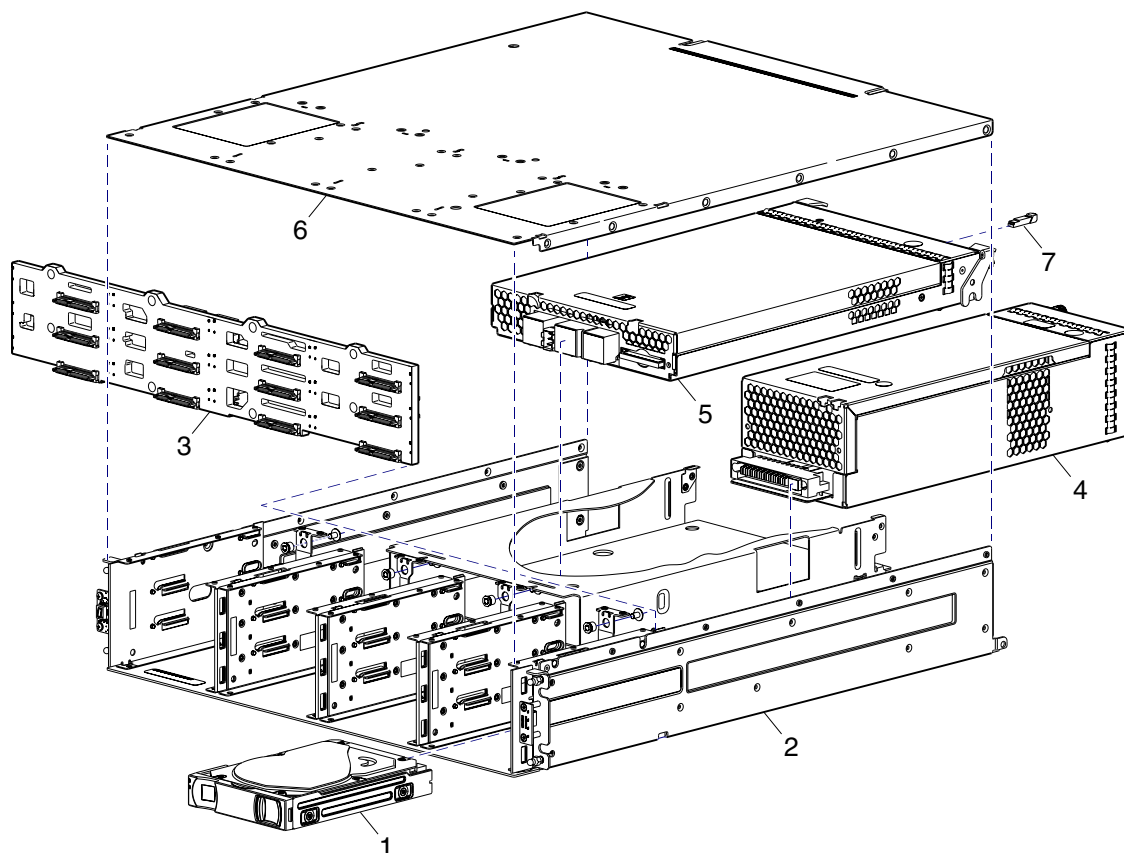
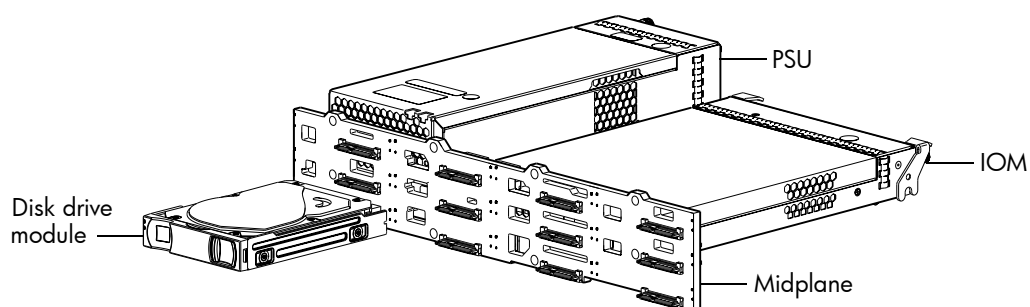
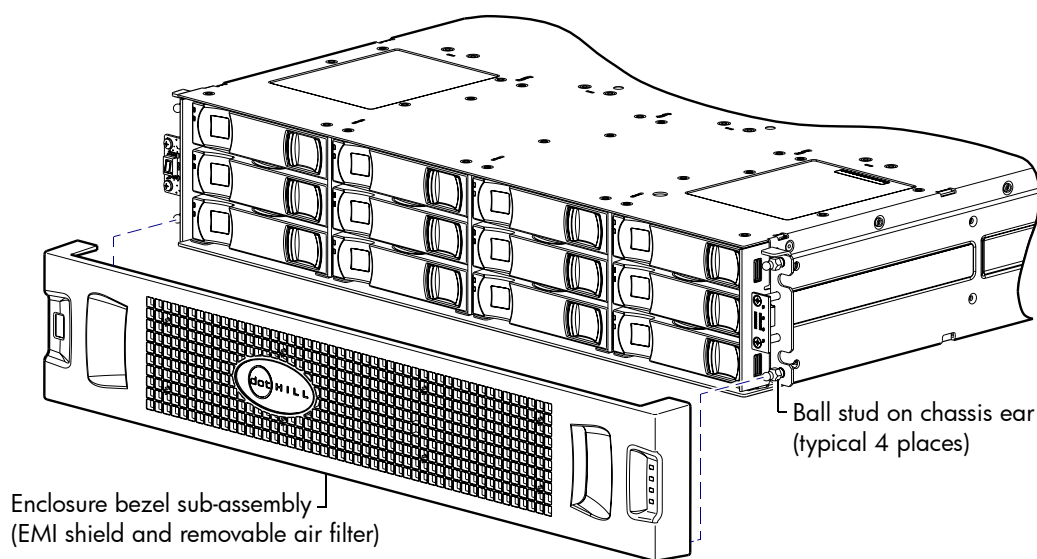

Figure 35 Controller enclosure exploded view (2U12)
Figure 37 Controller enclosure architecture — internal components sub-assembly (2U12)
Figure 38 Partial controller enclosure assembly showing bezel alignment (2U12)
- Exploded view: Figure 35 on page 212
- Internal components sub-assembly: Figure 37 on page 212
Figure 35 through Figure 37 are shown with the enclosure bezel removed.
The enclosure illustration in Figure 35 intentionally does not show exploded ear covers. See Figure 38 on page 213 for an illustration showing how the bezel aligns for attachment to the enclosure front panel, via press-fit onto four mounting ball studs located on chassis ears.
The 12-drive enclosure includes a bezel sub-assembly that attaches to the front of the chassis (see Figure 38). The bezel — comprised of a vented cover attached to an EMI shield — is pre-assembled and foam-packed within a box contained in the enclosure master shipping container. The bezel might optionally include a removable air filter that can be serviced or replaced. Hard copy instructions for attaching/removing the bezel, and for servicing or replacing the air filter, are provided in the shipping container of a new enclosure.